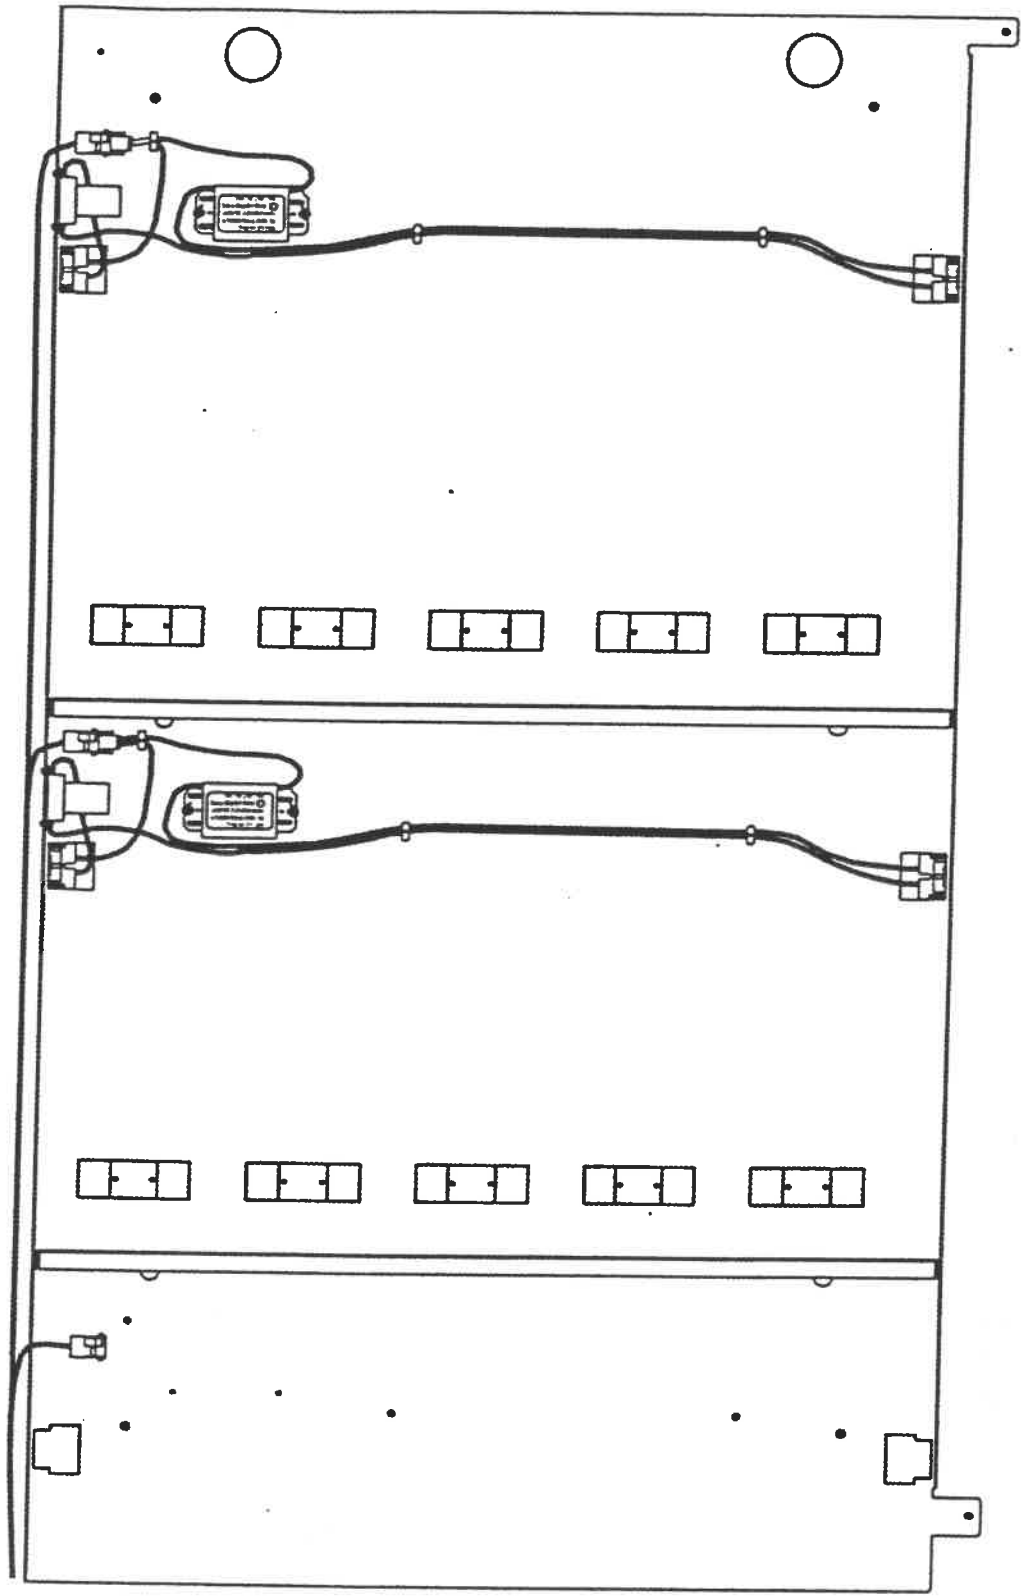

FIGURE 8
16. Insert the two-way plug (male) of the ballast assembly into the existing two-way cap (female) as shown in figure 8.